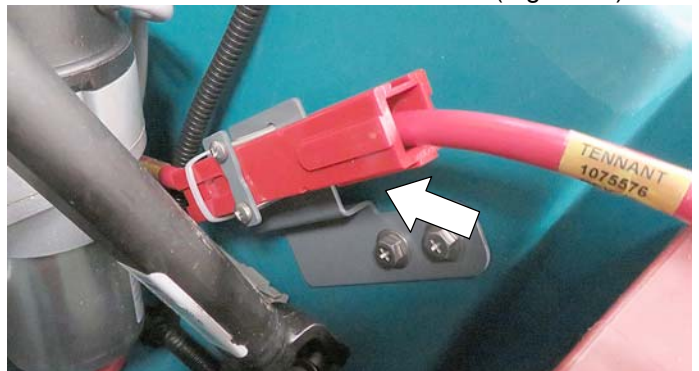

Fig. 18
20. Lastly, connect the positive battery cable connector to the new bracket connector as shown (Figure 18).